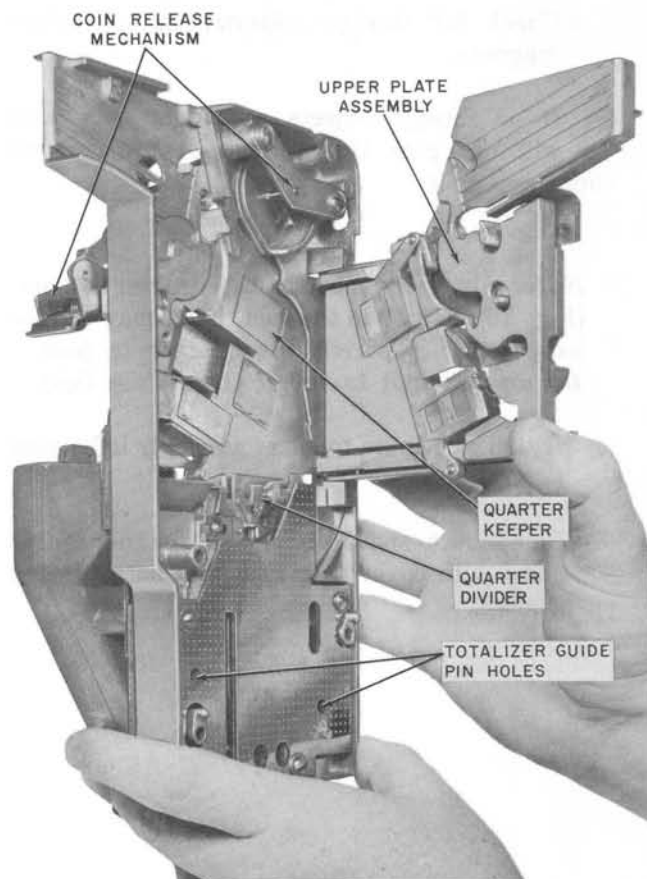

Fig. 13—Coin Chute Assembly
- (1) Operate coin release lever in attempt to clear coins in return chute.
- (2) If trouble does not clear:
- Swing upper plate assembly open (Fig. 13).
Note: In early models, the quarter keeper, (Fig. 13), located in the coin chute, may become loose and not permit the quarter to pass.